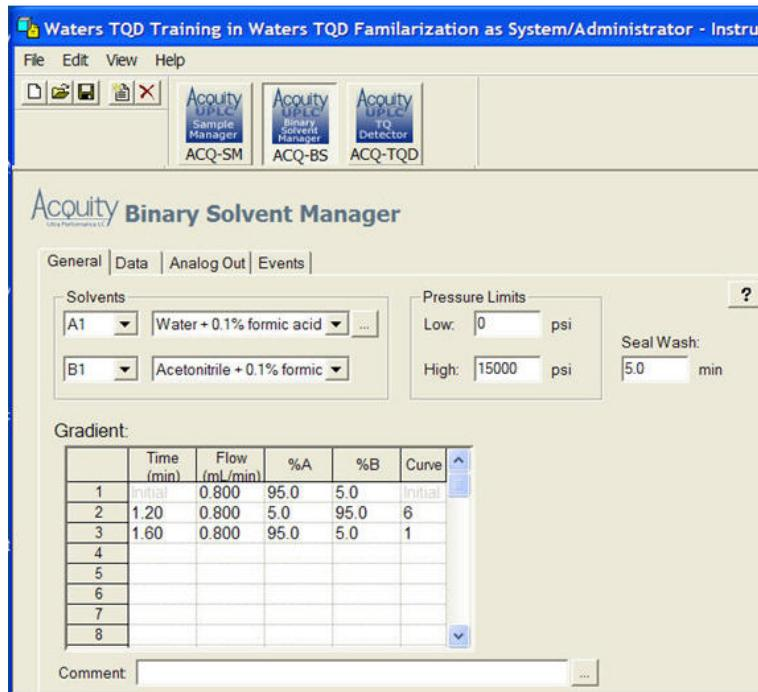

Figure 8 - Instrument Method Editor
5. In the General tab, set the gradient conditions shown in Figure 8.